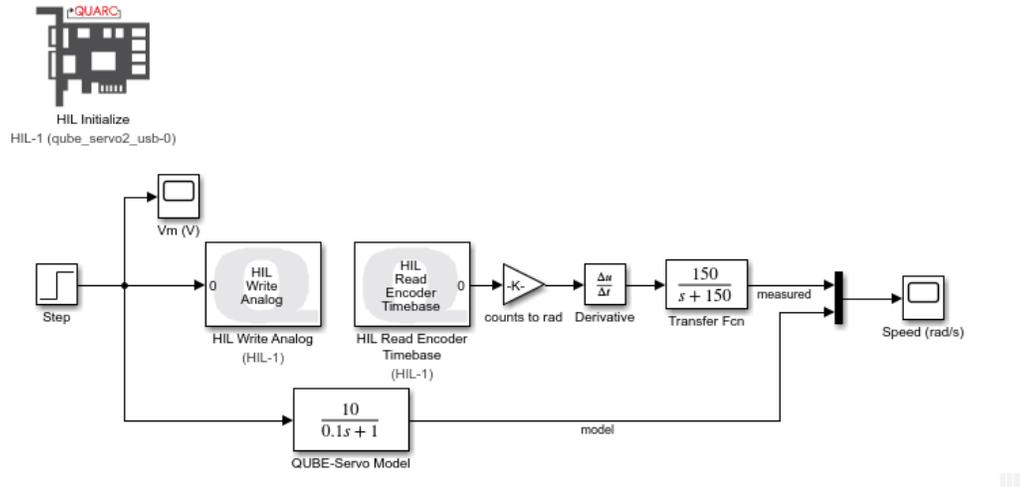

Figure 2.3: Validating step response model
- To check if your derived model parameters K and τ are correct, modify the Simulink diagram to include a Transfer Fcn block with the first-order model in Equation 1.1, as shown in Figure 2.3. Connect both the measured and simulated QUBE-Servo 2 responses to the scope using a Mux block (from the *Signal Routing* category). Build and run your **QUARC®** controller. Attach a **MATLAB®** figure displaying both the measured and simulated response in one plot, as well as in the input voltage.